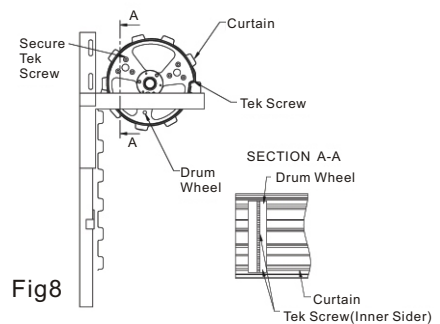

Fig 8
- w. Final Security -Fully close the door, mark the corrugation just before the Curtain leaves the top roll, drill through the Curtain and the Drum wheel rim, and apply a 'pop rivet' or self-tapping screw. This must be done at both ends of the door (Fig. 8).